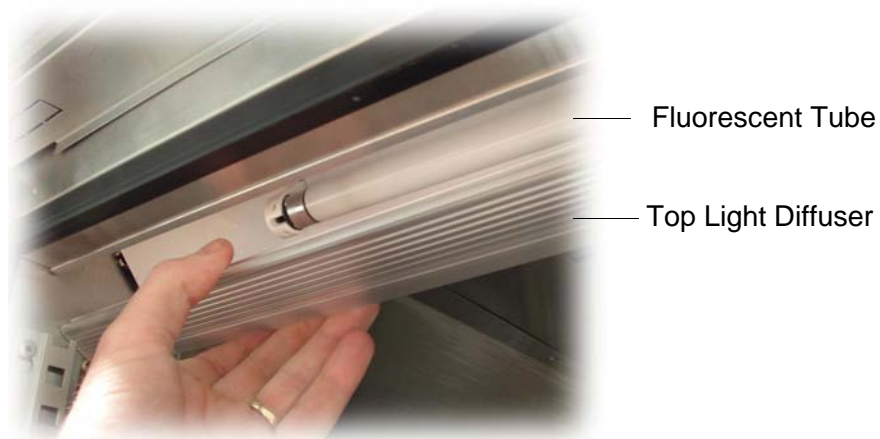

Figure 4: Replacing the Fluorescent Tube
2. Remove the top light diffuser, by compressing the back section of the diffuser until it disengages from the aluminium housing and then push the diffuser back (see Figure 4 below).